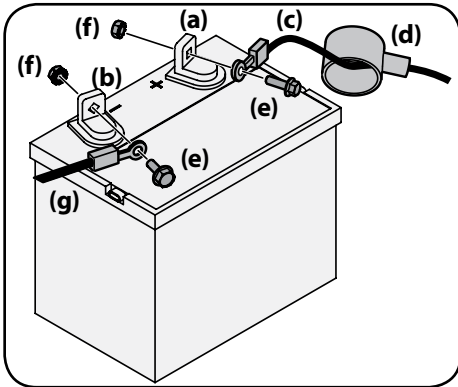

Figure 2-18
2. Remove the red boot (d), if present, from the positive battery terminal (a) and attach the red cable (c) to the positive battery terminal (a) with the bolt (e) and hex nut (f). See Figure 2-18.
4. Attach the black cable (g) to the negative battery terminal (b) with the bolt (e) and hex nut (f). See Figure 2-18.